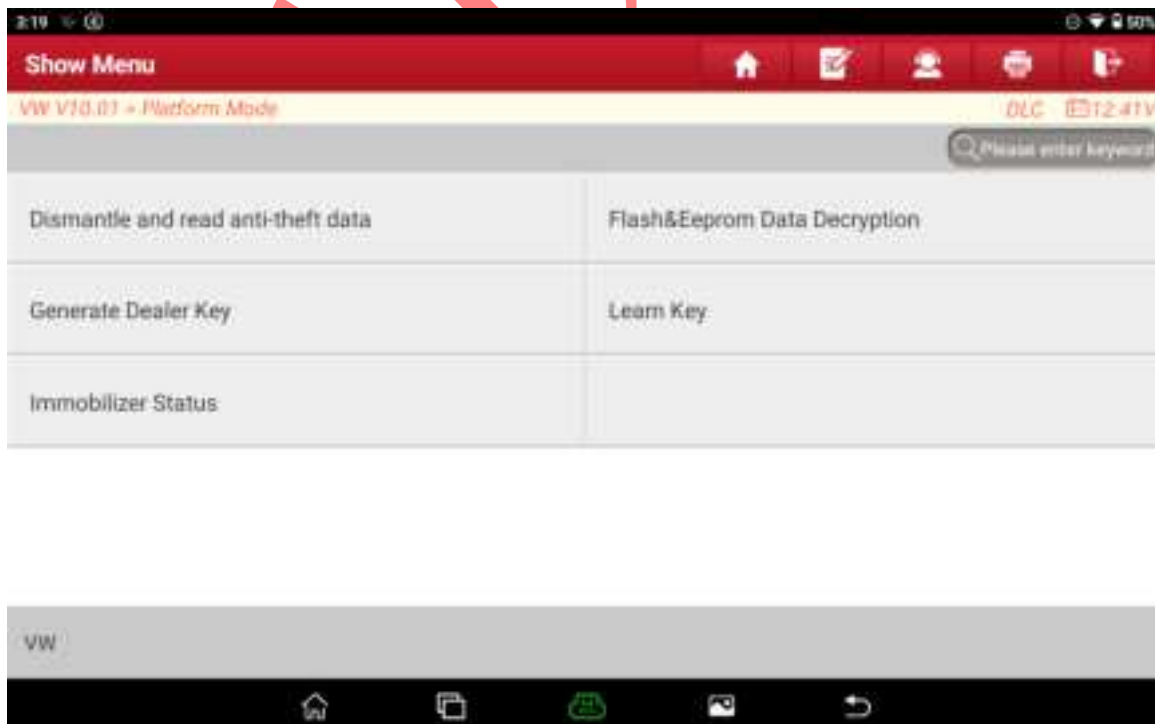

Figure 20
19. Select [Flash&Eeprom Data Decryption], as shown in Figure 20.